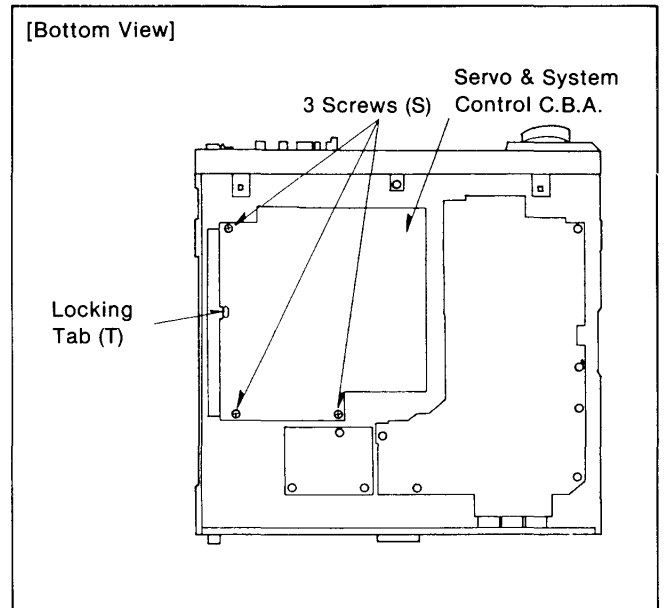
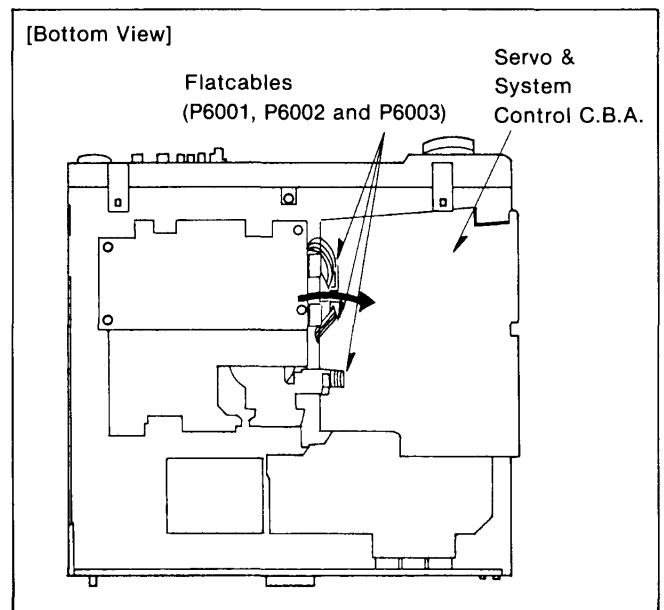

Figure D20
Figure D21
1. Unscrew the 3 screws (S) on the Servo & System Control C.B.A. and open the Servo & System Control C.B.A. by unlock a locking tab (T)(Figure D20 and Figure D21).
2. Remove the flatcables (P6001, P6002 and P6003)(Figure D21).